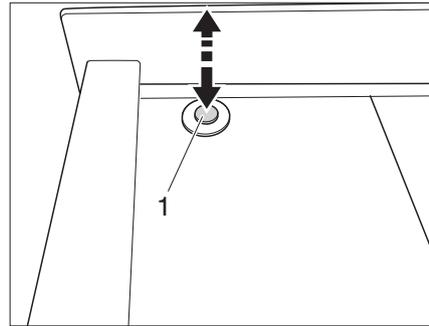

Fig. 6 Central locking - unlocking
► Push the push button (Fig. 6,1). The push button is released (push lock). The flaps and drawers of the kitchen block are unlocked.